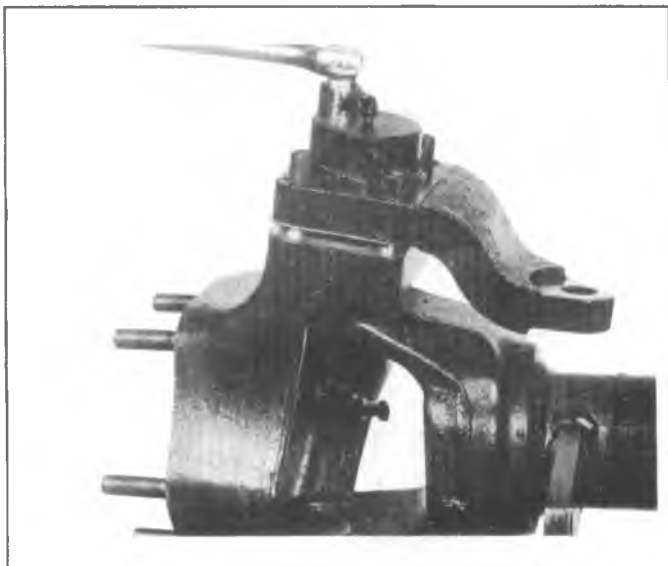

Fig. 3C-18K--Removing Nuts Alternately
4. Torque the upper ball socket nut to 100 ft. lbs. as shown in Figure 3C-16K. After torquing the nut, do not loosen to install cotter pin, apply additional torque, if necessary, to line up hole in stud with slot in nut.